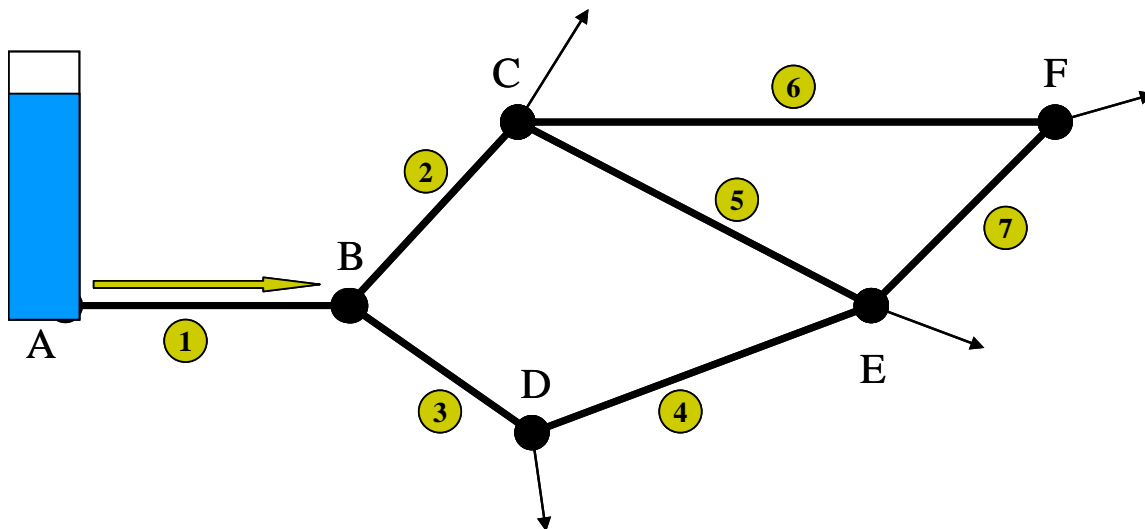

Figure 2. Pipe Network
**2. Use the Hardy Cross method (and the Hazen Williams equation) to solve for the flows in each pipe of the network shown in Figure 2 and described in Table 2. Also, determine the values of the hydraulic grade line (HGL) and pressure at each node (pipe junction) in the system. Assume that  $C_{HW} = 120$  for all pipes. The elevation of water in the tank at node A is 250 ft.**
Table 2. Pipe &amp; Node Data for Figure 2 Pipe Network